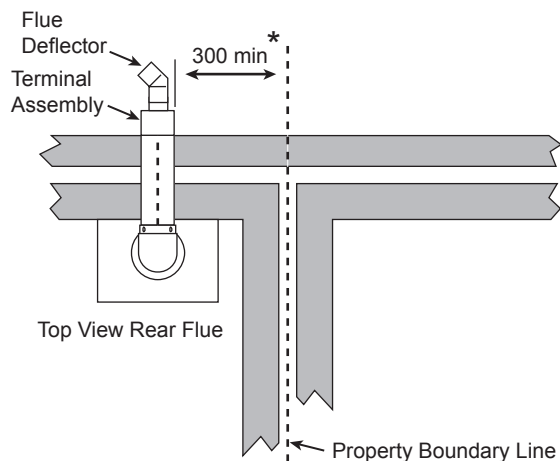

Fig. 12
*4. The distance from a fanned draught appliance terminal installed parallel to a boundary may not be less than 300mm in accordance with the diagram opposite (Fig. 12).